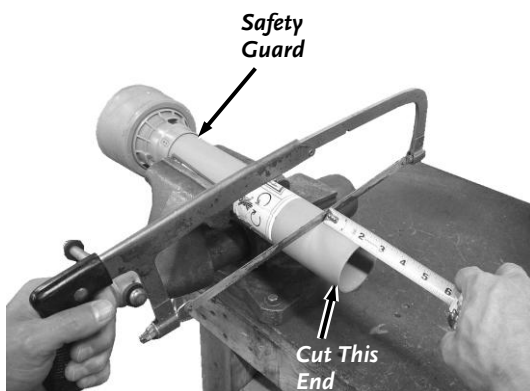

Figure 11
3. Measure and cut the ends of both Guards the required amount (**Figure 11**).